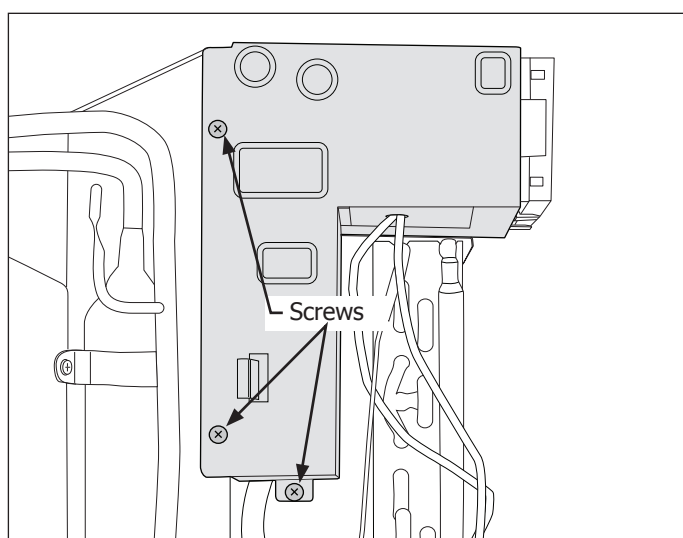

Figure 4-35.
4. Remove the screw at the top and the three screws along the left side securing the control box assembly to the unit frame. (See Figure 4-35)